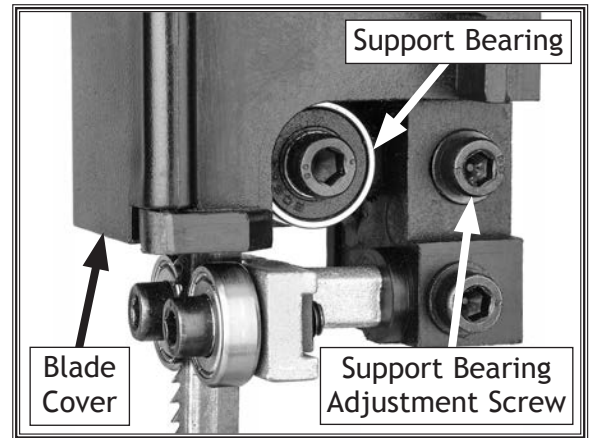

Figure 24. Upper support bearing assembly and controls.
2. Open blade cover and loosen support bearing adjustment screw (see **Figure 24**).